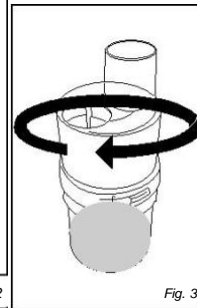

Fig. 3
6. Step 3: Replace the top of the nebulizer and twist to close; gently pull the top to ensure the top is secure, Fig 3.